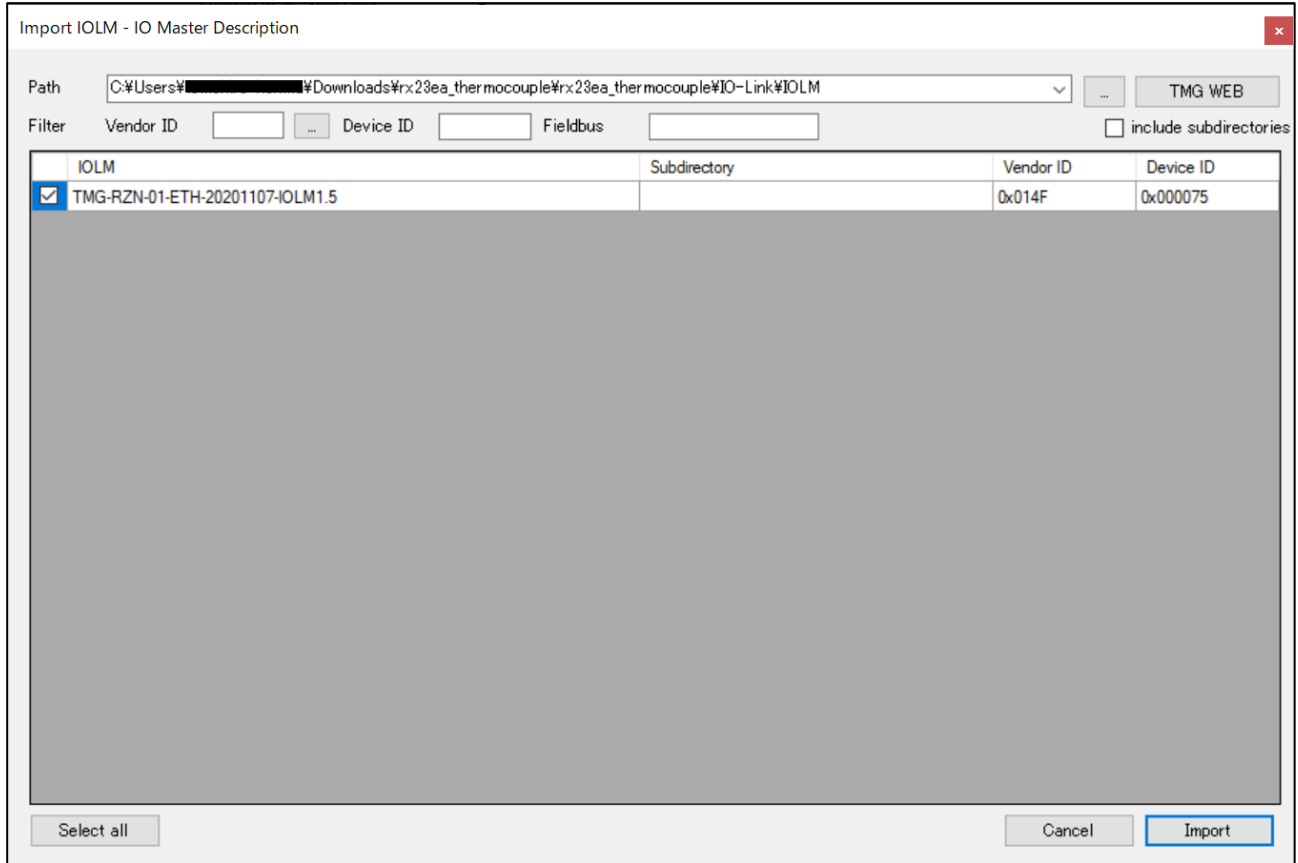

Figure 5-4 IO-Link Device Tool V5.1 – PE (Loading IOLM file)
2. Enter the path or select the folder that contains the IOLM zip file. The IOLM file of this sample application is located in the "IOLM" folder in the included sample project file. The IOLM file is auto-detected, as shown in Figure 5-4.